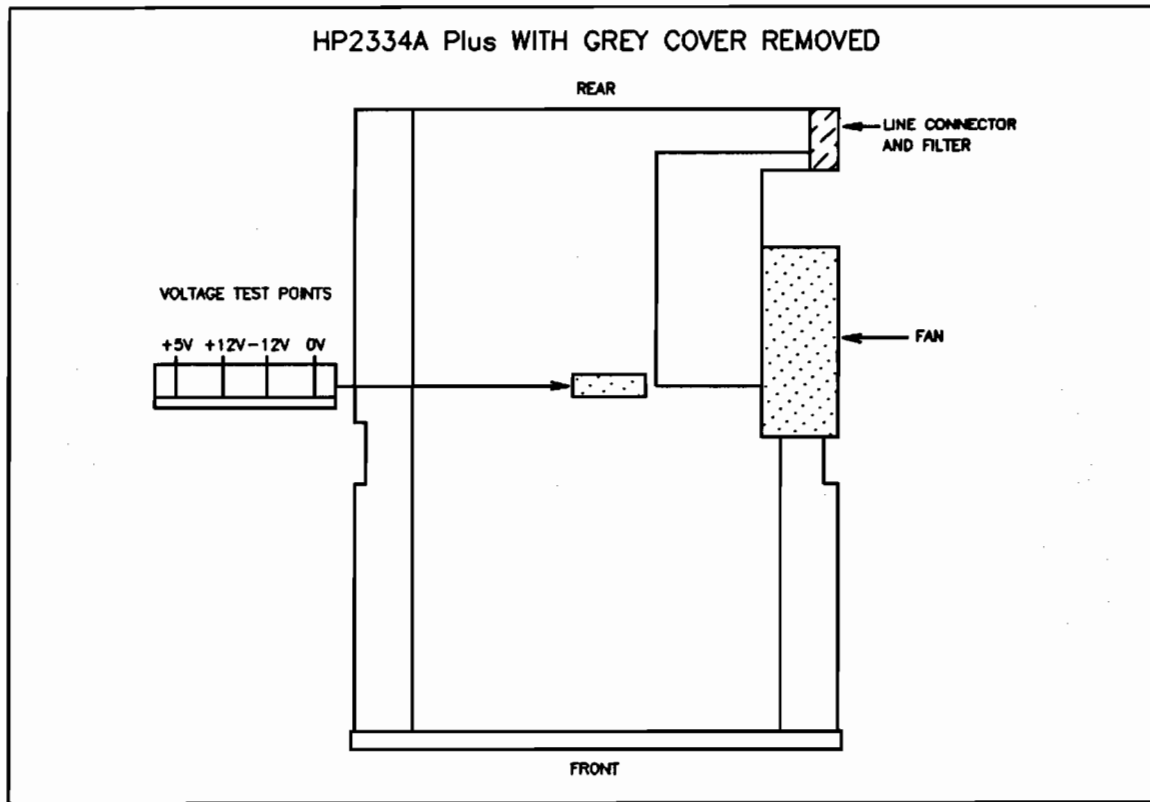

Figure 12-2 HP2334A Plus Power Supply Voltage Test Points
**Voltage Checking Procedure.** A rectangular aperture in the top of the HP2334A Plus card cage provides access to the d.c. voltage test points located on the Main Backplane (see Figure 12-2). The test point identification labels are printed on the Main Backplane, above the test points.